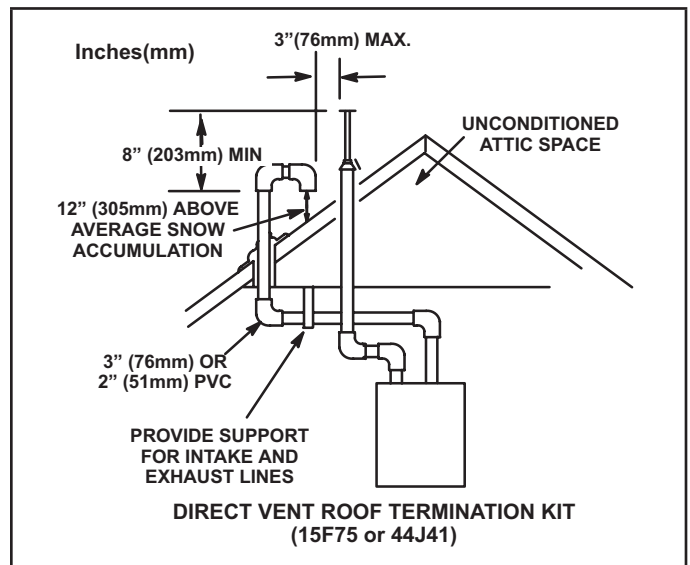

FIGURE 36
Intake and exhaust pipes may be routed either horizontally through an outside wall or vertically through the roof. In attic or closet installations, vertical termination through the roof is preferred. FIGURE 36 through FIGURE 44 shows typical terminations.
- 3 - On roof terminations, the intake piping should terminate straight down using two 90° elbows (See FIGURE 36).